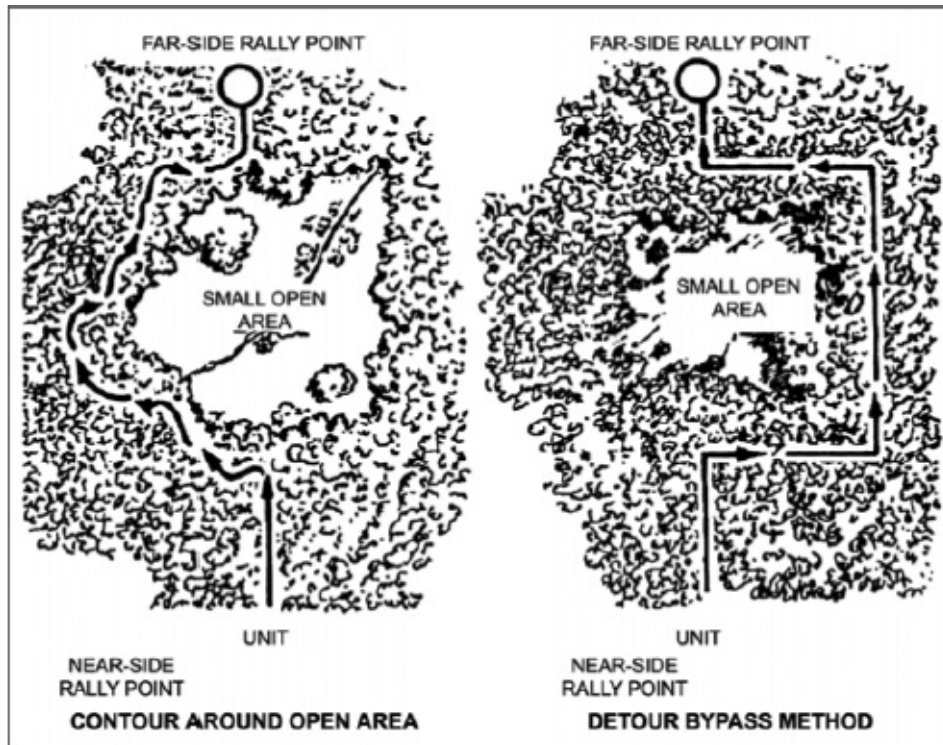

Figure 2-5. Small open area
- Linear/small open danger area (use by-pass/contour technique. Figure 2-5).